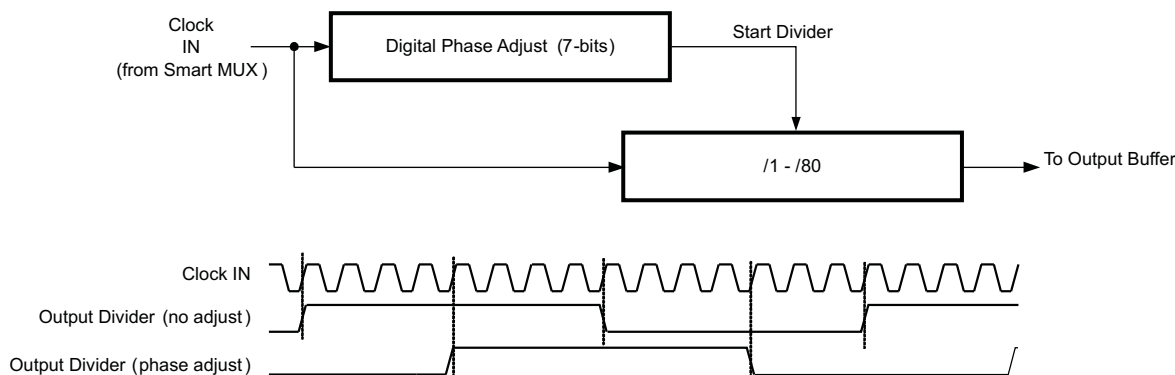

Figure 26. CDCE18005 Phase Adjust
Figure 26 provides an overview of the Digital Phase Adjust feature. The output divider includes a coarse phase adjust that shifts the divided clock signal that drives the output buffer. Essentially, the Digital Phase Adjust timer delays when the output divider starts dividing; thereby shifting the phase of the output clock. The phase adjust resolution is a function of the divide function. Coarse phase adjust parameters include:
- **Number of Phase Delay Steps** – the number of phase delay steps available is equal to the divide ratio selected. For example, if a Divide by 4 is selected, then the Digital Phase Adjust can be programmed to select when the output divider changes state based upon selecting one of the four counts on the input. Figure 26 shows an example of divide by 16 in which there are 16 rising edges of Clock IN at which the output divider changes state (this particular example shows the fourth edge shifting the output by one fourth of the period of the output).